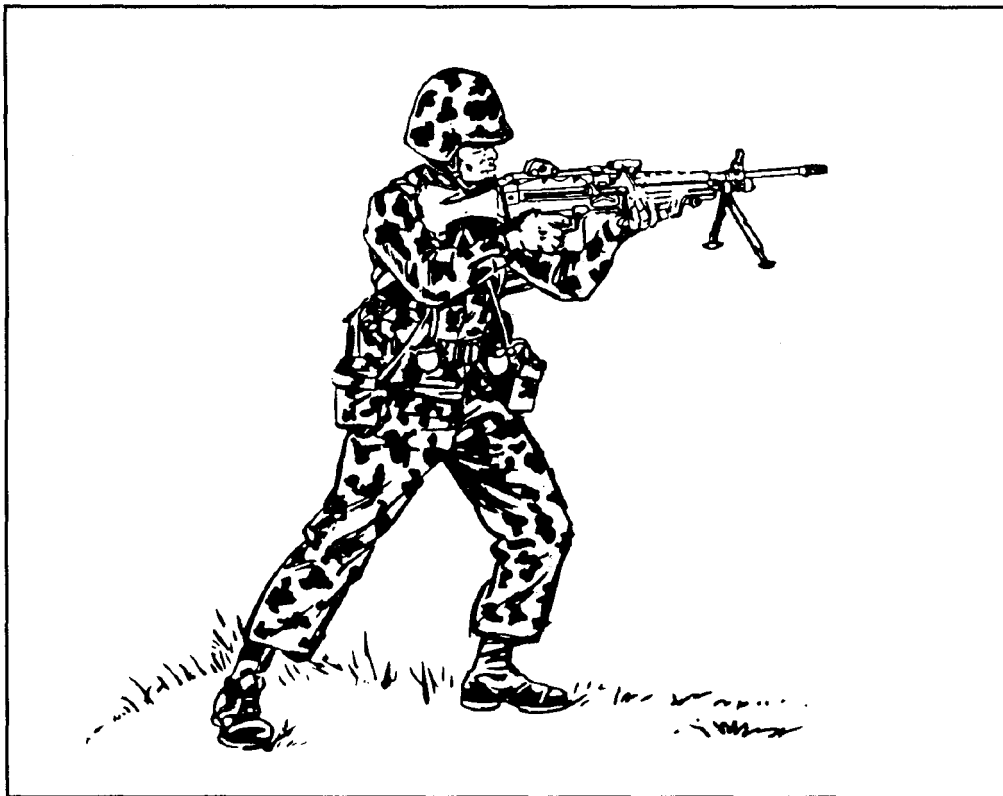

Figure 6-25. Shoulder firing position.
a. **Shoulder-Firing Position.** This position is usually used to engage targets at ranges less than 100 meters when no other position can be assumed or the situation dictates its use (Figure 6-25). It is the least stable of all positions, because the M249 AR is an open-bolt weapon that can be fired only on automatic. It is most often used in the final stages of the assault. To assume this position, the automatic rifleman—
- (1) Puts the bipod legs down so that he is prepared to assume the prone position when required.
(2) Puts his left foot well forward of the right. Leans forward at the waist toward the target with his knees bent, transferring his weight to his left foot before and during firing. This helps counter the recoil.
(3) Grasps the handguard firmly with his left hand. His left elbow is as nearly under the M249 as possible.
(4) With his right hand, places the butt of the M249 AR into the pocket of his right shoulder. Grasps the pistol grip firmly and pulls the weapon into his shoulder. Holds his right elbow horizontal to the ground or slightly above to form a good pocket in his shoulder. He does not use the shoulder rest.
(5) Lets his right arm absorb most of the weight of the weapon. Shifts his feet until he is aiming naturally at the target and obtains a good stockweld.
(6) Uses his left hand on the handguard to counter the tendency of the M249 AR to climb during burst fire.
(7) If there is not enough time to aim using the sights, applies quick-fire techniques. Looks through or just over the rear sight and uses the front sight post to aim at the target. Places the front sight post below the target (center base) and keeps his focus on the front sight post.